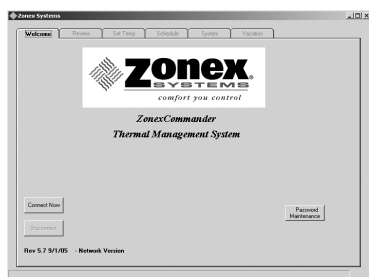

Fig. 6
- Click on the **Connect Now** button from the WELCOME screen (see Fig. 6).